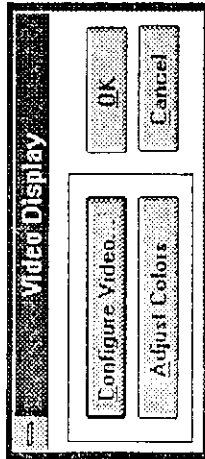

Figure 3-21.
3. To configure video or adjust colors, CLICK on "Video Display" under Options (see Figure 3-21).